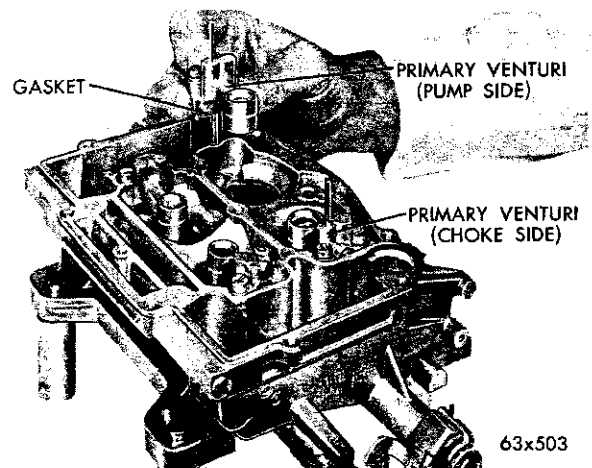

Fig. 41—Removing or Installing the Primary Venturi
(4) Remove the screws that attach the primary venturi (choke and pump side) to the main body. Lift the venturi straight up and away from the main body, as shown in Figure 41. Discard the gaskets.
(5) Place new primary venturi gaskets in position, then install the primary venturi (pump and choke side) by lowering straight down on the gaskets. (See Fig. 41). Install attaching screws and tighten securely.